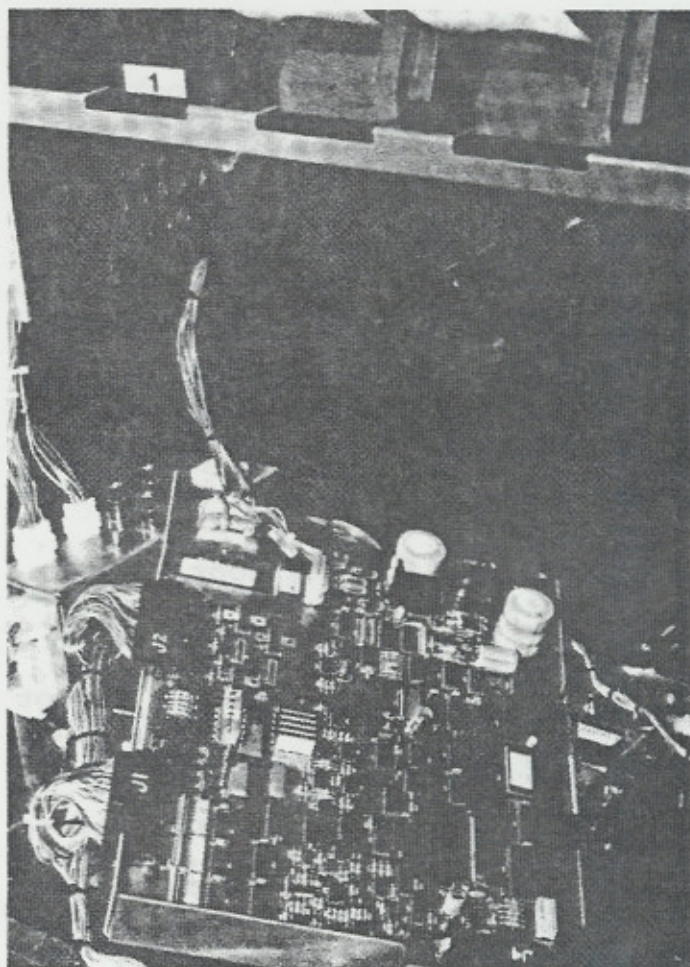

Figure 4-10
- 2) Disconnect the wire harness and remove the assembly from the cabinet. See Figure 4-10.